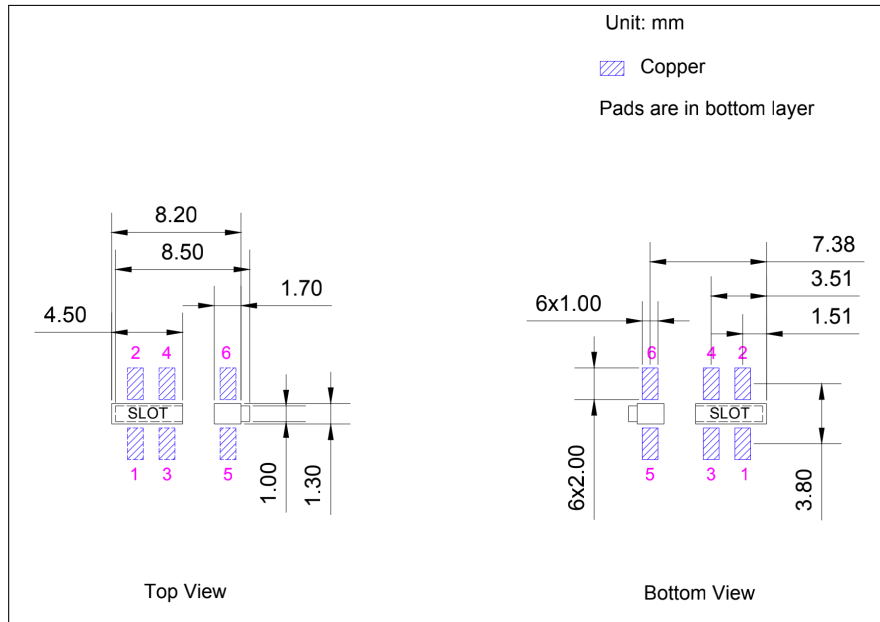

Figure 7: Recommended PCB Land Pattern
- Figure for the recommended PCB land pattern with all the dimensions needed for PCB design. See Figure 7 Recommended PCB Land Pattern.
- Source file of the recommended PCB land pattern to measure dimensions not covered in Figure 7. You can view the source files for ESP8684-WROOM-07 with Autodesk Viewer.